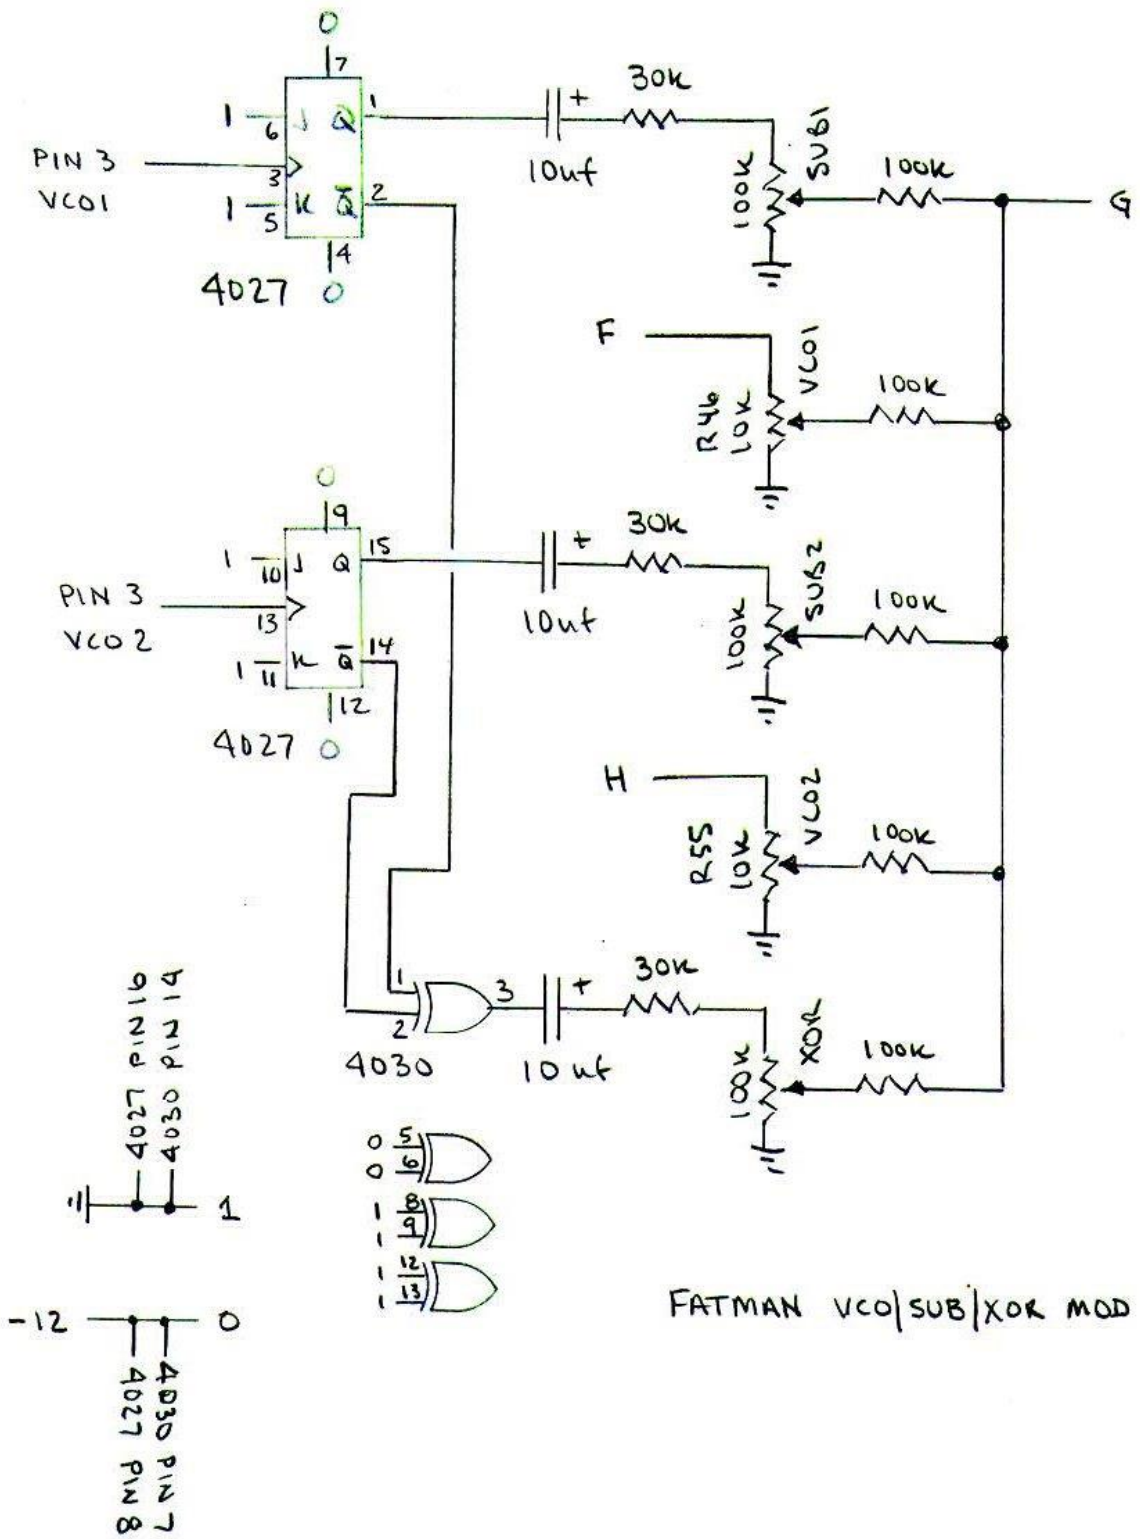

Figure 4
8. Sub-Octave / Square Wave Outputs: Wire clock of each flip-flop (4027B) to pin 3 of each VCO. Wire each Q-1 output through 10 uF (negative to Q-1 output) and 30K resistor to one side of 100K volume potentiometer. Wire other side of potentiometer to ground. Wire the wiper of each potentiometer through 100K resistor to point G. Wire J and K inputs of each flip-flop to pin 16. Wire SET and RST inputs of each flip-flop to pin 8. Wire pin 16 to GND and pin 8 to -12 volts. Bypass pin 8 and 16 with 0.1 uF capacitor (figure 4).
9. Ring Modulator: Wire Q-0 output of each flip-flop to inputs of XOR gate (4030B). Wire output through 10 uF (negative to Q-0 output) and 30K resistor to one side of 100K volume potentiometer. Wire other side of potentiometer to ground. Wire the wiper of the potentiometer through 100K resistor to point G. Wire unused inputs to pin 7 (or 14). Wire pin 14 to GND and pin 7 to -12 volts. Bypass pin 7 and 14 with 0.1 uF capacitor (figure 4).